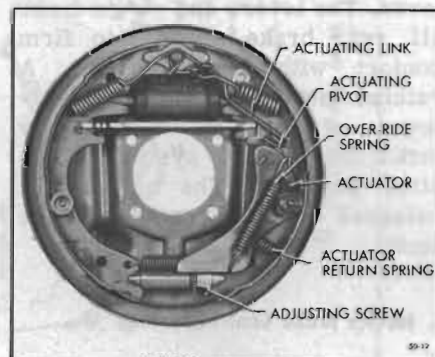
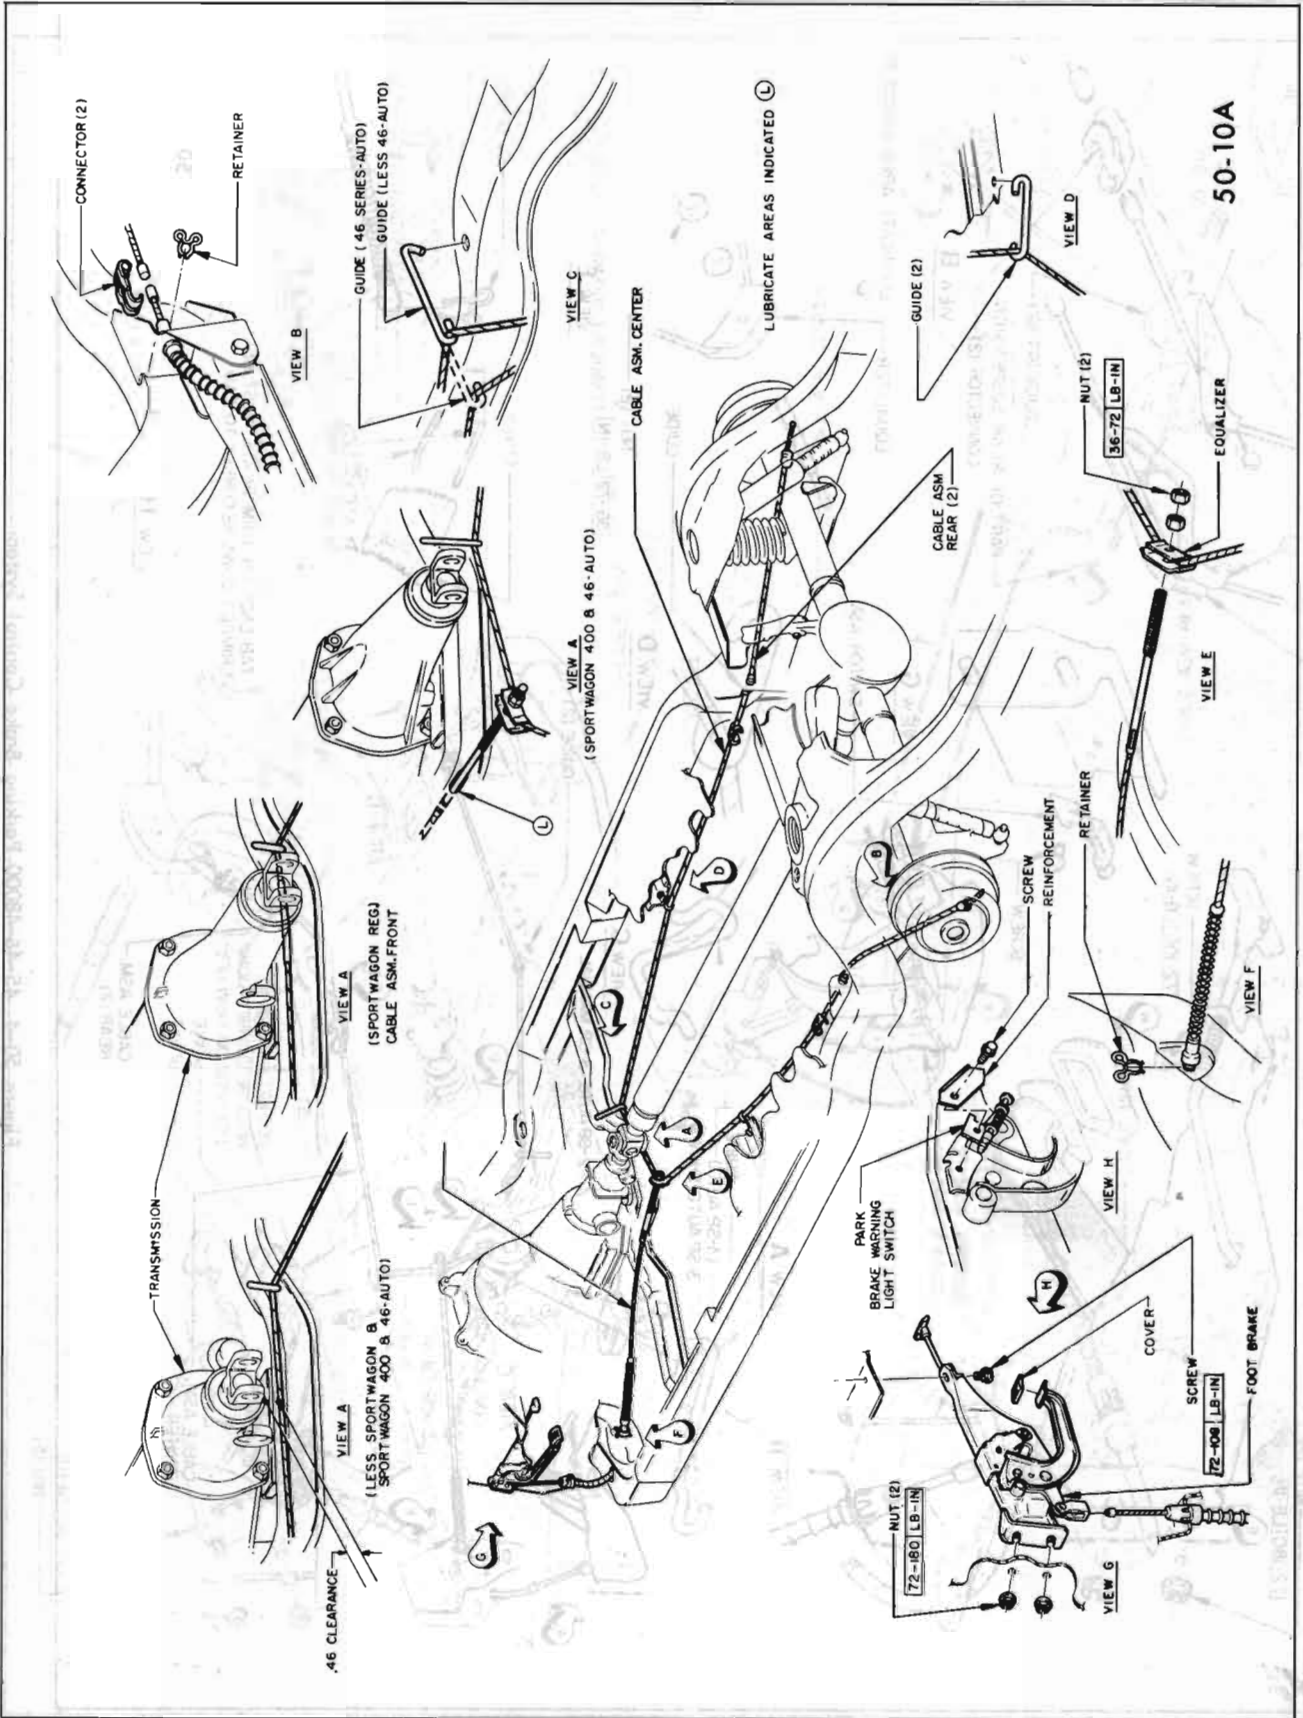

Figure 50-2—Left Rear Wheel Brake Assembly
Figure 50-3 43-44000 Parking Brake Control System
2. Loosen jam nut located at rear of equalizer adjusting nut. See Figures 50-3, 4 or 5. Then tighten adjusting nut until rear wheels can just be turned rearward using two hands but are locked when forward rotation is attempted.
A hydraulic wheel cylinder mounted on the backing plate between the upper ends of the brake shoes forces the shoes against the brake drum when the service brakes are applied. On rear wheels only, a lever mounted on each secondary shoe and connected to the primary shoe by a strut is used for applying the shoes when used as parking brakes. See Figure 50-2.
The parking brake control system, which applies only the rear wheel brakes, uses a foot-operated lever, cables and brake shoe levers and struts. By means of an equalizer, the front parking brake cable is connected to the forward portion of a center cable. See Figures 50-3, 4 or 5. This center cable is routed rearward from the equalizer through retaining guides which attach to right and left side frame rails. The center cable attached at either end to a rear cable assembly. Each rear cable connects to the free lower end of a brake shoe lever. These levers (one in each rear brake shoe assembly) pivot on the secondary shoes. Struts are mounted between the brake shoe levers and the primary shoes. See Figure 50-2.
6. Separate the brake shoes by removing adjusting screw and lock spring. Remove parking brake lever from secondary brake shoe (rear only). See Figure 50-2.